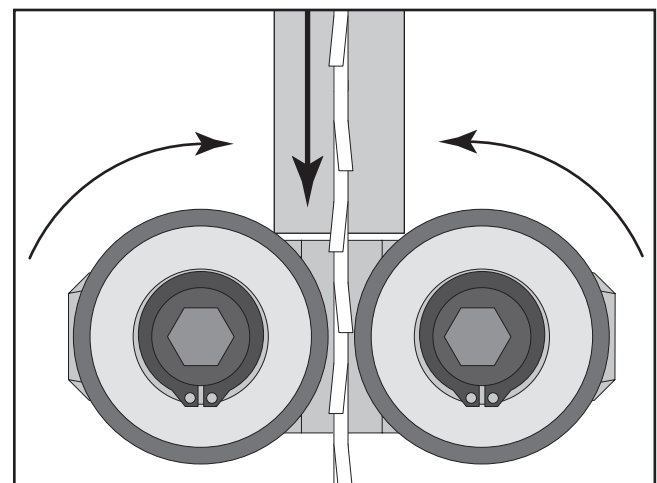

Figure 25. Blade guides bearings properly adjusted.
8. Rotate the bearings with the hex wrench until the bearings almost touch the blade as illustrated in **Figure 25**. Note—Fold a dollar bill in half, place it over the blade. Slide the dollar bill and bearing through the blade guides. If the dollar bill and blade do not fit through the guides, they are too tight.